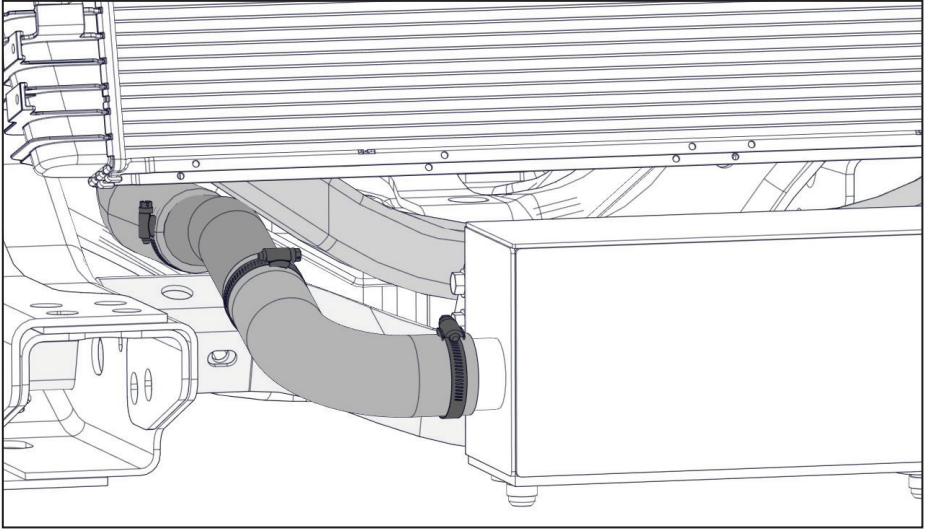

Figure 33 — Install radiator hoses and tube connectors
- Connect passenger and driver side radiator hoses, and tubes to the VMAC cooler. Route the steel tube connectors between the cross member and the radiator support (Figure 33).